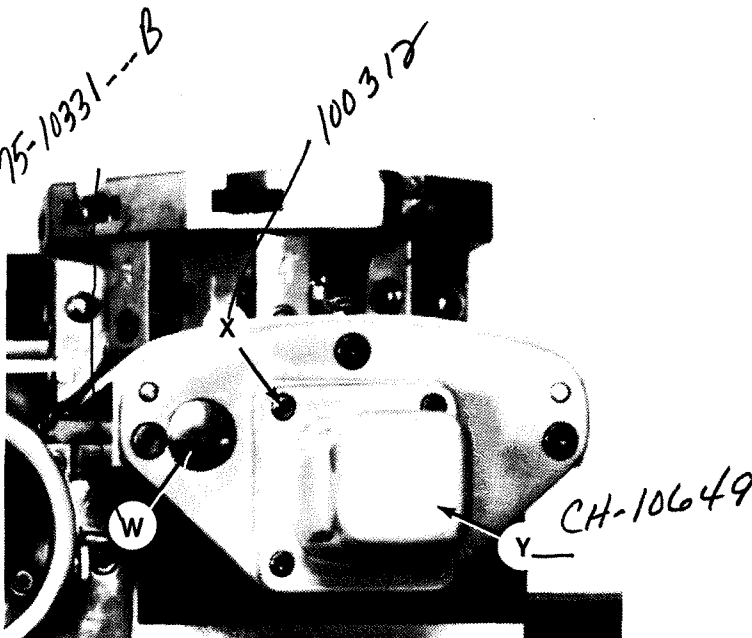

Figure 2.10 - Access to Cross Slide Gib Screws
- a) Remove dot plug "W", Figure 2.10 .
5. Install dot plug "W", Figure 2.10 .
8. Remove four screws "X" and cover "Y", Figure 2.10 .
10. Replace cover "Y" using four screws "X", Figure 2.10 .
1. Remove four screws "X" and cover "Y", Figure 2.10 .
5. Replace cover "Y" using four screws "X", Figure 2.10 .
1. Remove dot plug "W", Figure 2.10 .
6. Replace dot plug "W", Figure 2.10 .